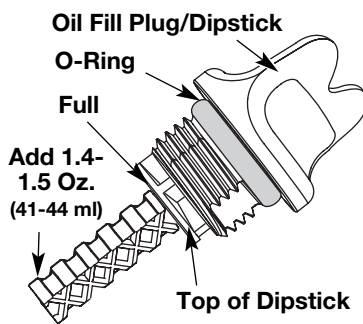

Fig. 23
- Remove the oil fill plug/dipstick and check the oil level. Oil should be up to the top of the dipstick (Fig. 23).